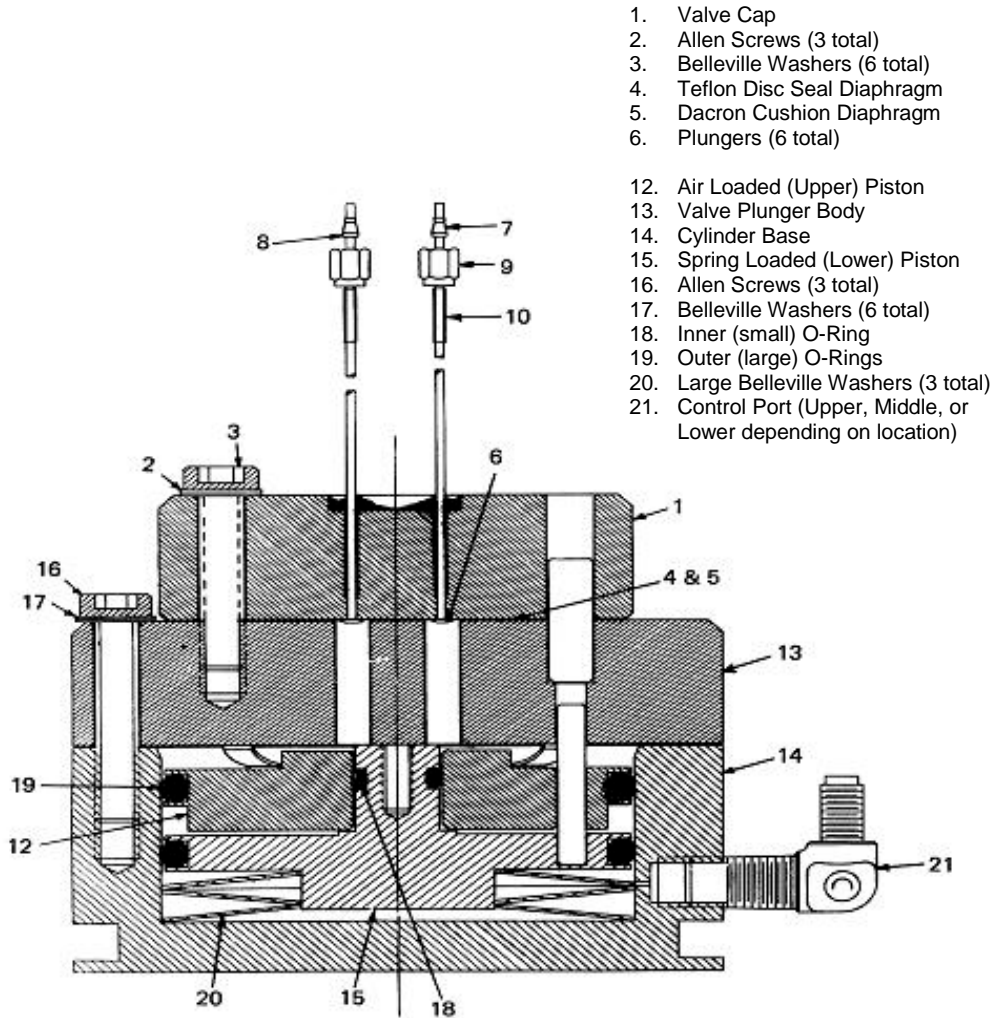

Figure 4-31: Section View of Model 20 Valve
Escaping air from valve vent hole indicates a ruptured diaphragm (4), which must be replaced. Check for liquid substances escaping from the vent hole. Refer to Figure 4-31.
Improper lubrication and/or contamination of Bal-Seal (18) will increase friction on valve-actuating piston. This causes valve switching to be erratic, slow or inoperative. Refer to Figure 4-31. To correct the conditions causing slow or erratic piston switching, perform the following:
The following procedures should be followed for performing Mini-Maintenance on the Model 20 Valve. Refer to Figures 4-31 and 4-32.
8.	Place the actuator assembly upright on a clean lint free cloth surface. Refer to Figures 4-31 and 4-32.
9.	Position the Dacron cushion disc diaphragm (5) between the three alignment pins on the plunger valve body (13).
10.	Using tweezers, hold Teflon seal disc diaphragm (4) by its edges. Before reinstalling disc, remove lint, dust and oils by sliding disk between your index and middle fingers.
11.	Install Teflon seal disc diaphragm (4) over the Dacron diaphragm disc cushion (5).
The following procedures should be followed for performing Maxi-Maintenance on Model 20 Valve. Maxi-Maintenance procedures include the Mini-Maintenance procedures in addition to the disassembly, inspection and assembly of the valve Actuator presented in this section. Refer to Figures 4-31 and 4-32.
12.	Install the three large Belleville washers (20) in cylinder valve base (14). Washers must be positioned in an alternating bevel up, bevel down manner (to form a spring). Refer to Figures 4-31 and 4-32.
13.	Apply a bead of Krytox 240 AC lubricant, or equivalent; in "O" ring grooves of spring-loaded piston (15).
14.	Install new silicon O-rings (18 and 19) in spring loaded piston (15) and apply a coating of lubricant over each "O" ring.
16.	Install a new silicon "O" ring (19) in the upper air loaded piston (12a) and apply a coating of lubricant over the "O" ring.
17.	Place upper piston (12a) over the small diameter of lower piston (15). Position pistons using guide pin (12b) for proper orientation.
18.	Apply Krytox 240C lubricant to each of the six finger spring (12c) pressure points. This is the point where the spring fingers contact the plunger body (13).
19.	Position the valve upright with its three ports on the left. Install a #6-32 screw in the center-threaded hole of air loaded piston assembly (12) and bottom spring-loaded piston (15).
21.	Press the piston assembly into the cylinder base (14). After installation, remove the #6-32 screw.
22.	Align plunger valve body (13) and insert the piston guide pin (12b) into one of the three bottom holes of plunger valve body (13).